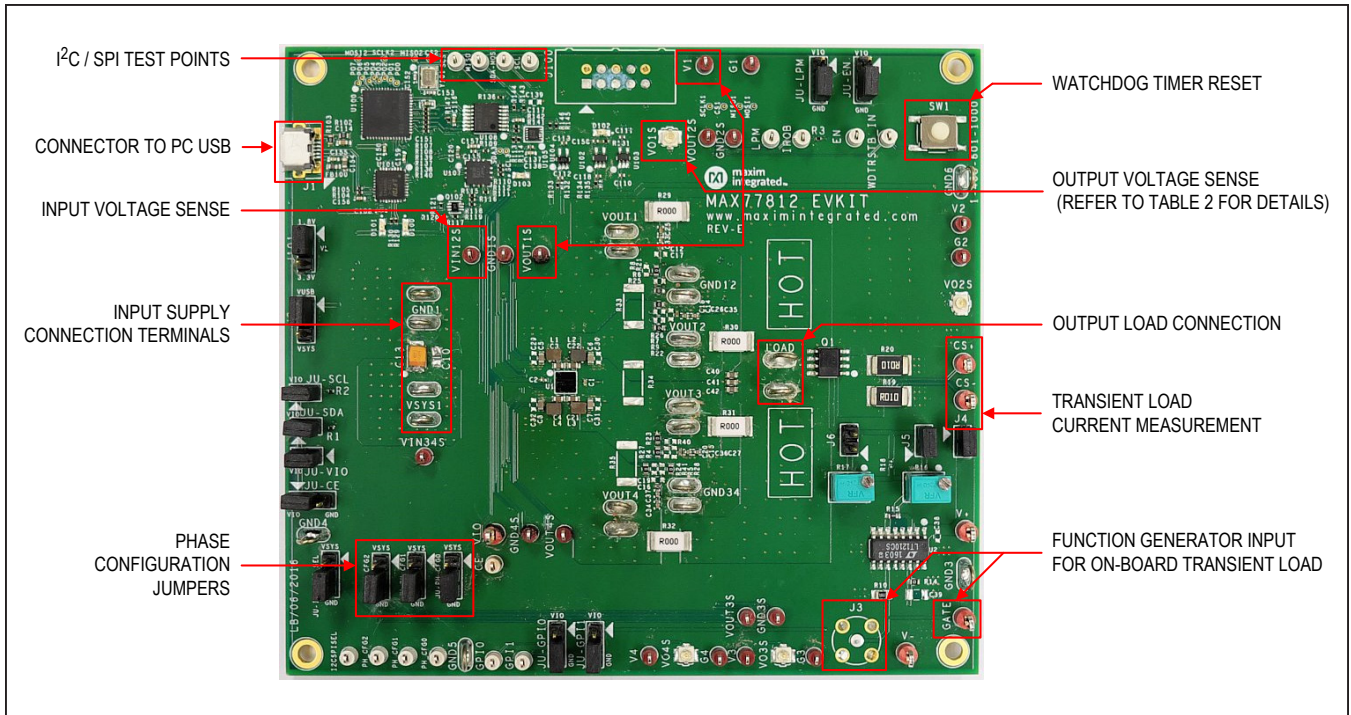

Figure 2. MAX77812 EV Kit Description
- 1) Identify the connections and test points shown in Figure 2. Confirm all shunts and jumpers are at their default positions as indicated in Table 1.